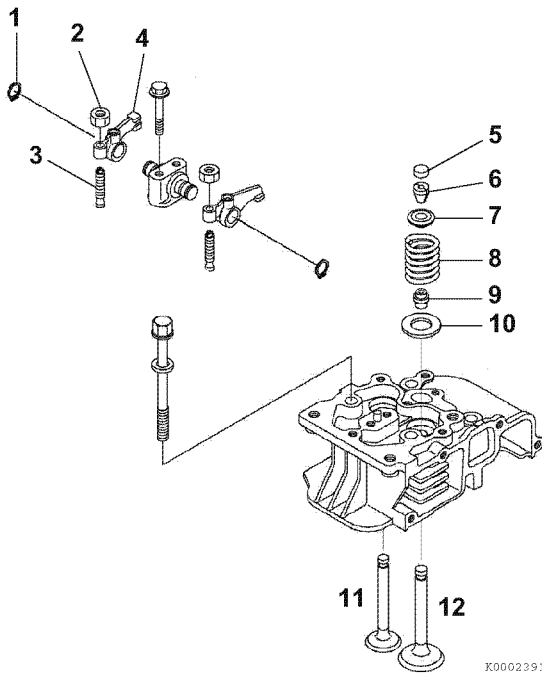

Figure 6-22
3. Place the valves (11, 12, **Figure 6-22**) in their proper locations in the cylinder head.
4. Place the cylinder head on the workbench with the combustion side down. Install the washer (10, **Figure 6-22**), valve spring (8, **Figure 6-22**) and spring retainer (7, **Figure 6-22**).
6. Insert the valve keepers (6, **Figure 6-22**) and slowly release the tension on the valve spring. Install the valve cap (5, **Figure 6-22**). Repeat the steps on the remaining valve.
7. Install the rocker arms (4, **Figure 6-22**) on the rocker shaft. Secure with a snap ring (1, **Figure 6-22**) on each end. If removed, install the adjuster screws (3, **Figure 6-22**) and locknuts (2, **Figure 6-22**) in each rocker arm.